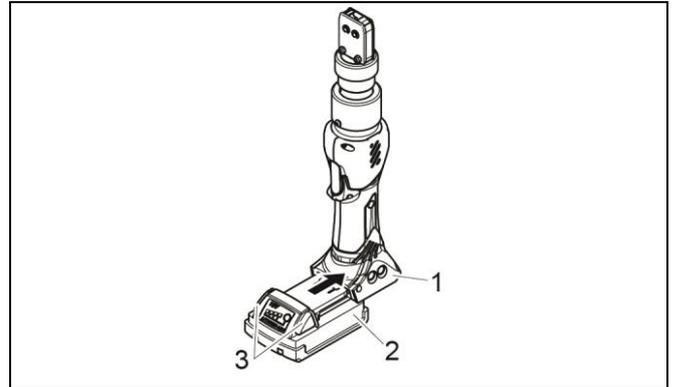

Fig. 11: Inserting the battery
- ▶ Slide battery (Fig. 11/2) into clamp pincer CP 10 / CP 20 / CC 20 (Fig. 11/1) until the safety catch locks.
The battery is inserted when the buttons (Fig. 11/3) move and a click noise is audible.